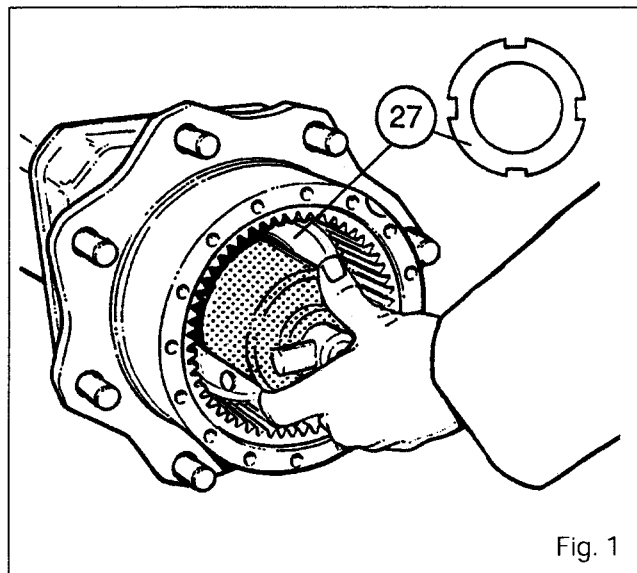
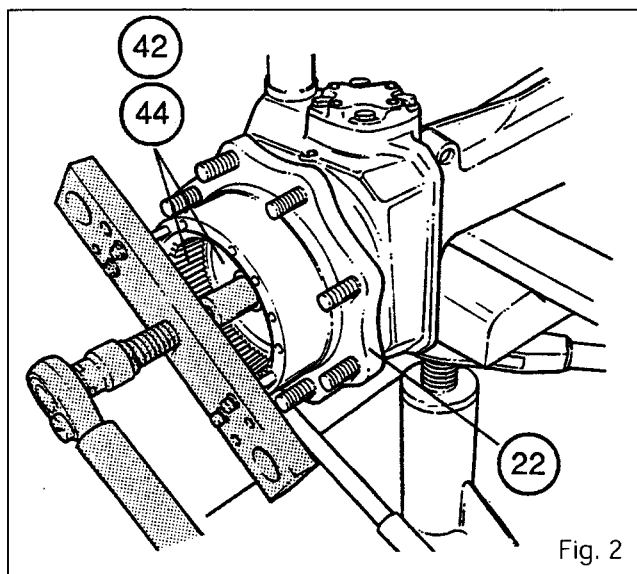

Fig. 1
Fig. 2
2. With the 4WD clutch engaged and the tractor stationary, lift both front wheels so that the hub (22) turns freely. Install stands..
5. Remove the bolts (33).
6. Remove and detach the planetary carrier with the thrust washer (30).
7. Remove the circlip (29) and the sun gear (28).
8. To avoid damaging the thread on the swivel housing (47), it is advisable to unlock nut (27) properly and to loosen it with socket MF 3376880M1 (axles AG 85 and AG 105) or 3378028M1 (axles AG 125 and AG 155) (Fig. 1). Fit a sling on the hub (22). Remove the hub along with the ring gear carrier (42) and ring gear (44) using extractor 3378038M1 (Fig. 2) and the sleeve suitable for the relevant category of axle (see Part I).
32. To avoid damaging the thread on the swivel housing **(47)**, it is advisable to unlock nut **(27)** properly and to loosen it with the socket (Fig. 1):
33. Fit a sling on the hub **(22)**. Remove the hub along with the ring gear carrier **(42)** and ring gear **(44)** using extractor 3378038M1 (Fig. 2) and the sleeve suitable for the relevant category of axle (see Part I).